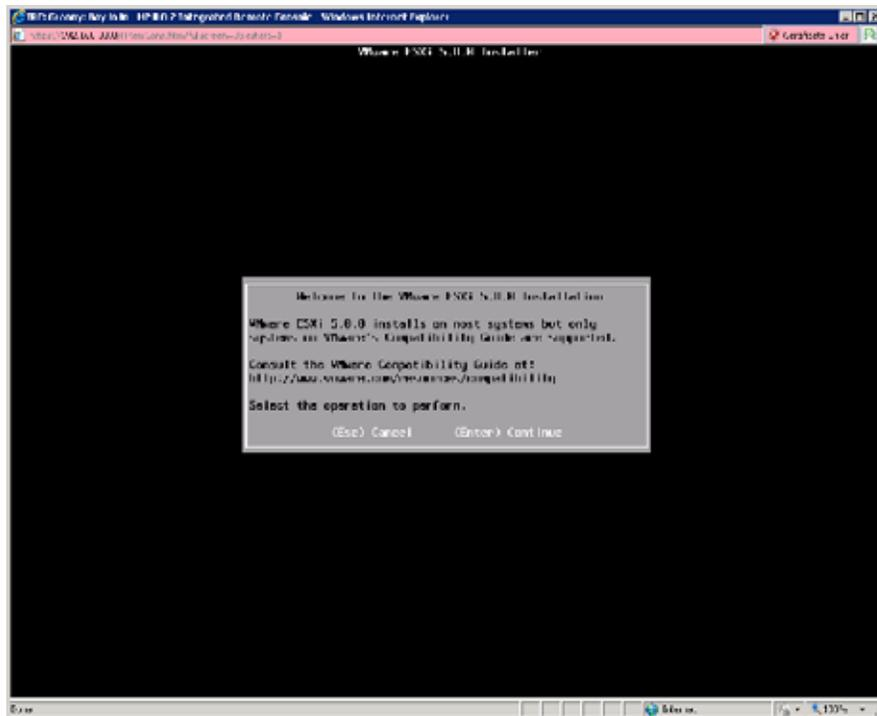

Figure 6 ESXi 5.0 Installer
- Step 4 Accept (*F11*) the license agreement (or decline by pressing *Esc*) as needed. To continue the installation procedure, accept the license agreement and start the ESXi 5.0 installer. Figure 6 on page 80 shows the ESXi 5.0 installer Welcome screen.